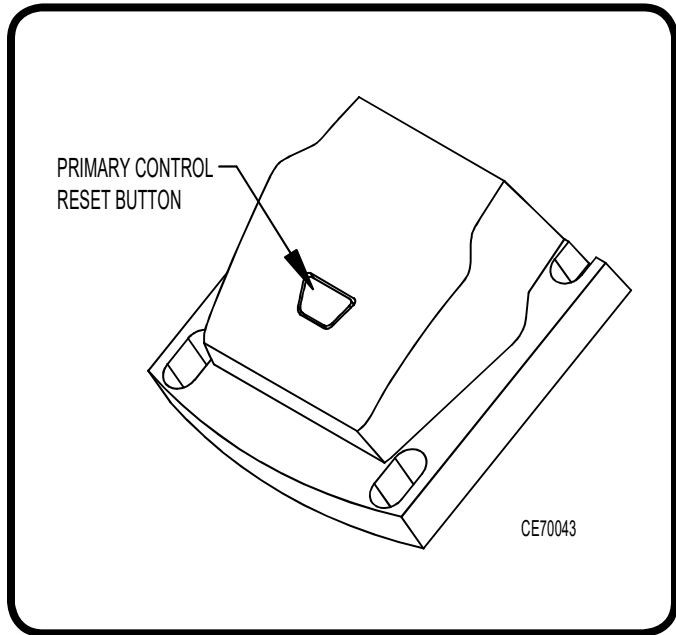

Figure 26: Oil Primary Control Reset Button
- (1) Refer to Figure 26 to locate the oil primary control reset button.
- (2) Do not attempt to reset the burner if there is excess oil in the combustion chamber, vapor has accumulated in the unit, or when the furnace is hot.